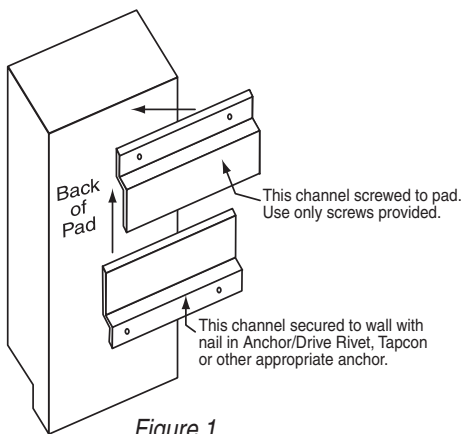

Figure 1
- ① Draw or strike a line on the wall between 7¼" and 9¼" up from the finished floor. The bottom of the pad will be 4" to 6" above finished floor using above measurements. Consult Progressive's drawing or the Architect/GC to verify distance pads should be installed above finished floor.
- ② Line up the bottom Z-clip's lower edge with line on wall. Make sure this Z-clip is open to the top (see Fig. 1). Drill and anchor Z-clip to wall using appropriate anchors supplied by installer. Spacing and type of fasteners is dependent on the type of wall structure.
- ③ Measure up the wall from line made in step 1 the height of the wall pad (typically 6') minus 7¾" and mark another line parallel to the bottom line.
- ④ Align the bottom edge of the top Z-clip with the upper line and anchor as indicated in step 2.
- ⑤ On the back of the pad, mark a line 3" from the bottom. Make sure this Z-clip is open to the bottom as shown in figure 1.
- ⑥ Attach Z-clip to wood backer using only the factory supplied #10 x ½" wood screws. Use caution not to strip the wood backer when driving the screws, especially if installing with a drill or screw gun.